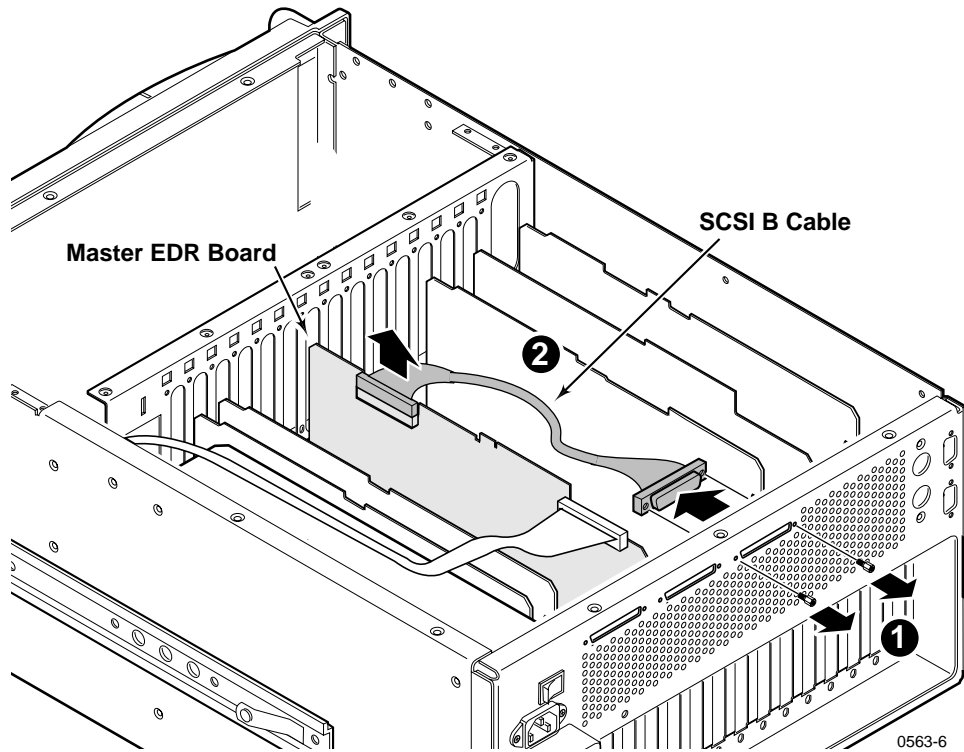

Figure 7. Removing the SCSI B Cable
- a. Remove the jackscrews which secure the SCSI B connector to the rear panel (❶ in Figure 7) using the 3/16-inch nutdriver. Keep the jackscrews for step c.
- b. Disconnect the other end of the cable from the Master EDR (❷ in Figure 7) and remove the cable from the system.